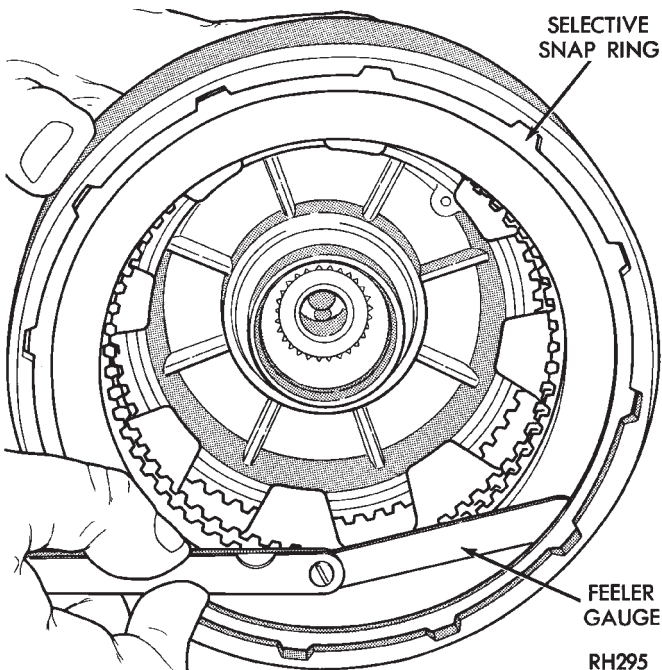

Fig. 221 Typical Method Of Checking Rear Clutch Pack Clearance
(12) Install top pressure plate.
(13) Install selective snap ring. Be sure snap ring is fully seated in retainer groove.
(14) Measure clutch pack clearance (Fig. 221). Clearance should be 0.64 - 1.14 mm (0.025 - 0.045 in.). If clearance is incorrect, steel plates, discs, snap ring and pressure plates may have to be changed.